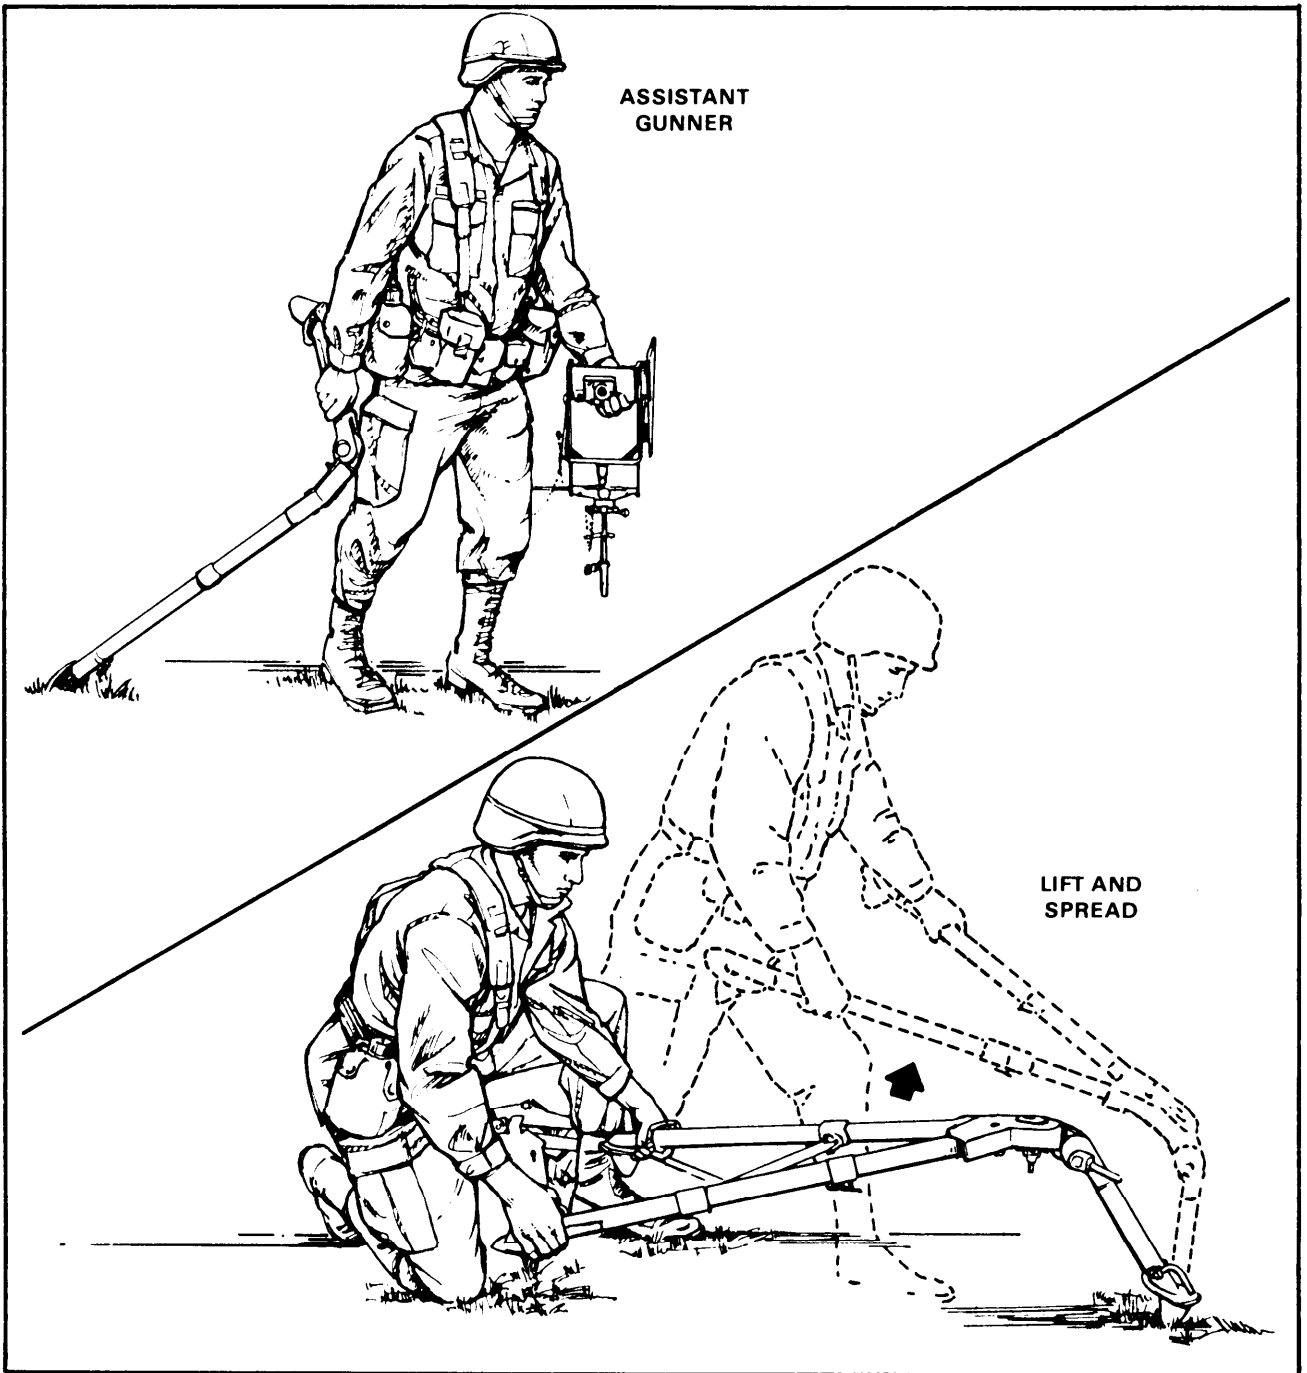

Figure 4-2. Positioning the tripod.
(1) At the command or signal ACTION, the assistant gunner drags the tripod to the firing position by its front leg with his right hand, and carries the gun cradle, T&E mechanism attached, in his left hand. When he arrives at the firing position, he aligns the front tripod legs for direction and, with one quick motion, snaps the trail legs apart. This action makes the sleeve lock-latch snap in place (Figure 4-2) . He stamps each leg into the ground. He secures the gun cradle, with T&E attached, to the tripod, using the pintle lock